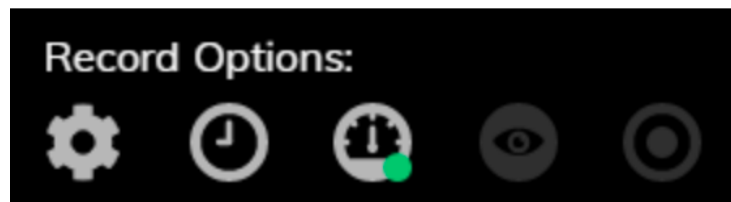

Figure 9
- When calibration is complete, this will be indicated by a green dot over the Calibration button, as seen in Figure 9. At this stage, you may place your tissue plate in the instrument.